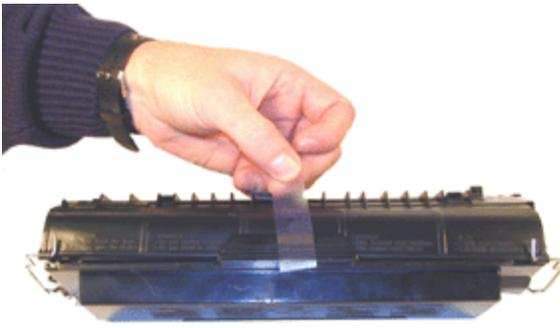

FIGURE 1
2. Tape the drum cover open so that it is back under the back large tab. See Figure 1